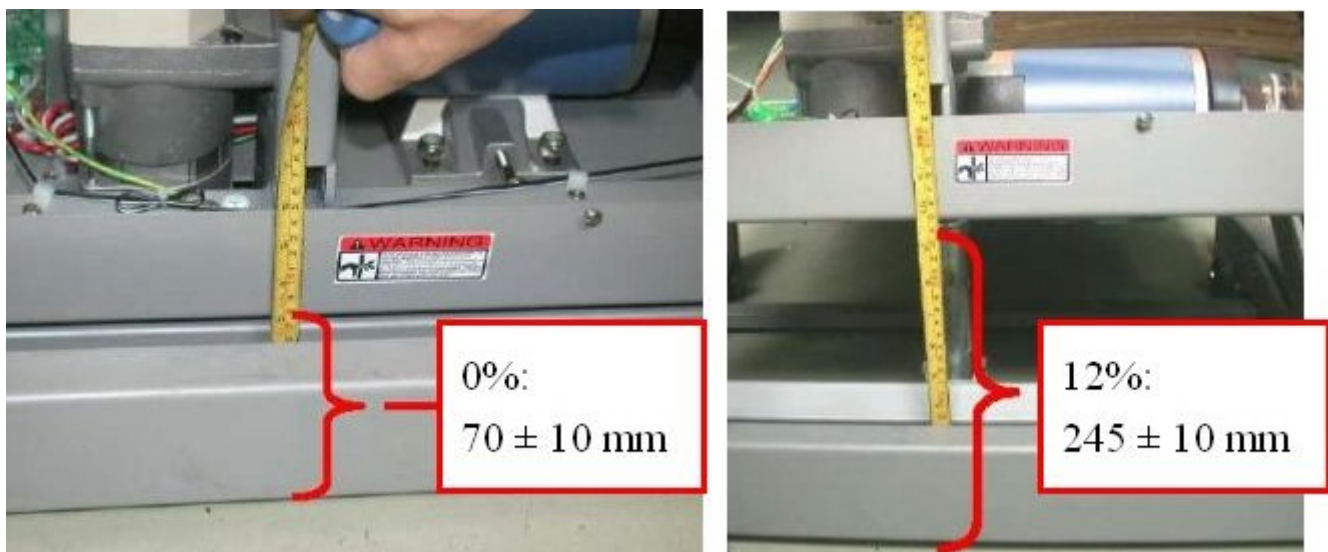

Figure 3 Measuring correct lift motor positions
7. Tighten the screws (A) and verify correct elevation by measuring (Figure 3)